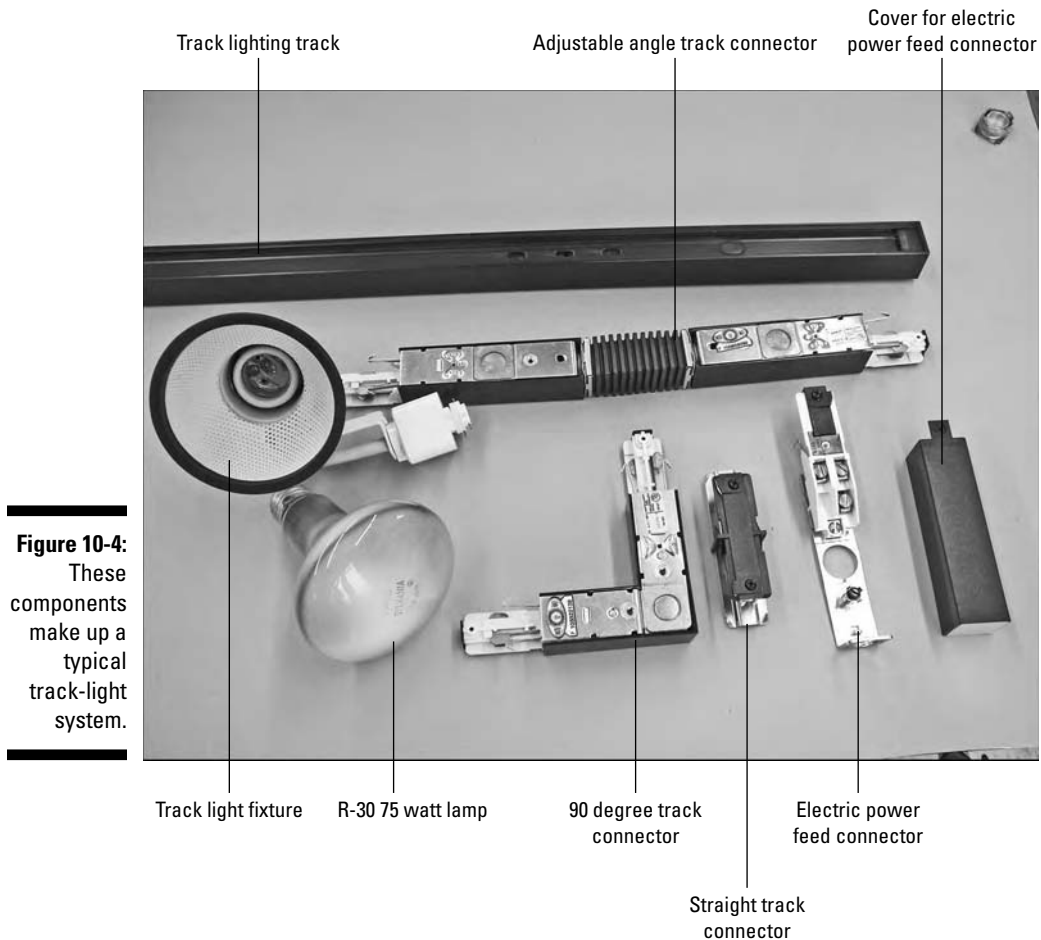

Figure 10-4:
When you install a track, simply run a control wire to one end of the track location. You can install this wire in a box, or just bring it out through the wall or ceiling surface. Track lighting manufacturers make fittings to cover box openings. Other track-lighting system components, shown in Figure 10-4, include
- ✓ **Track connectors:** These link multiple tracks together. As you can see in Figure 10-4, these connectors may be straight, angled, or flexible.
- ✓ **Power-feed connectors:** These feed power to the track. One of the connectors in Figure 10-4 is shown with the cover removed.